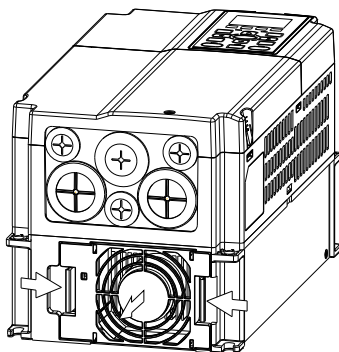

Figure 1
1. Refer to Figure 1, press the tab on both side of the fan to successfully remove the fan.